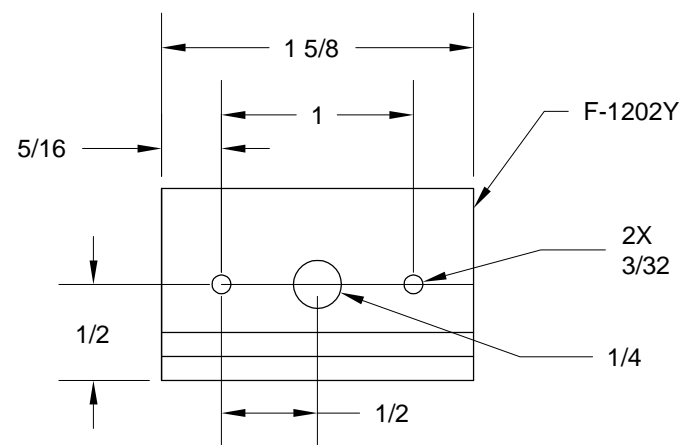

FIGURE 2: MAKING THE STRUT ATTACH ANGLE
Step 2: Make the F-1202Y Strut Attach Angles by cutting two lengths of AA6-125X1X1 to 1 5/8 inches and drilling as shown in Figure 2. Deburr. Machine countersink the two nutplate attachment holes.